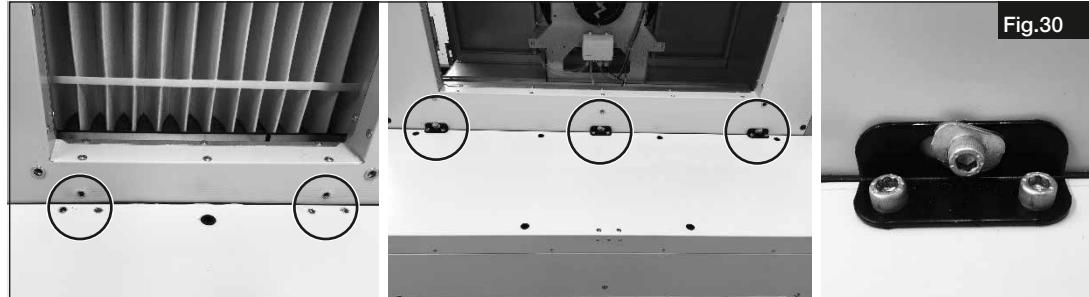

Fig.30
7. Mount the mounting bracket to the change-over-unit DX. Connect AIR1 unit change-over-unit DX and connect with the 6 x 16 mm screws (see Fig.30).